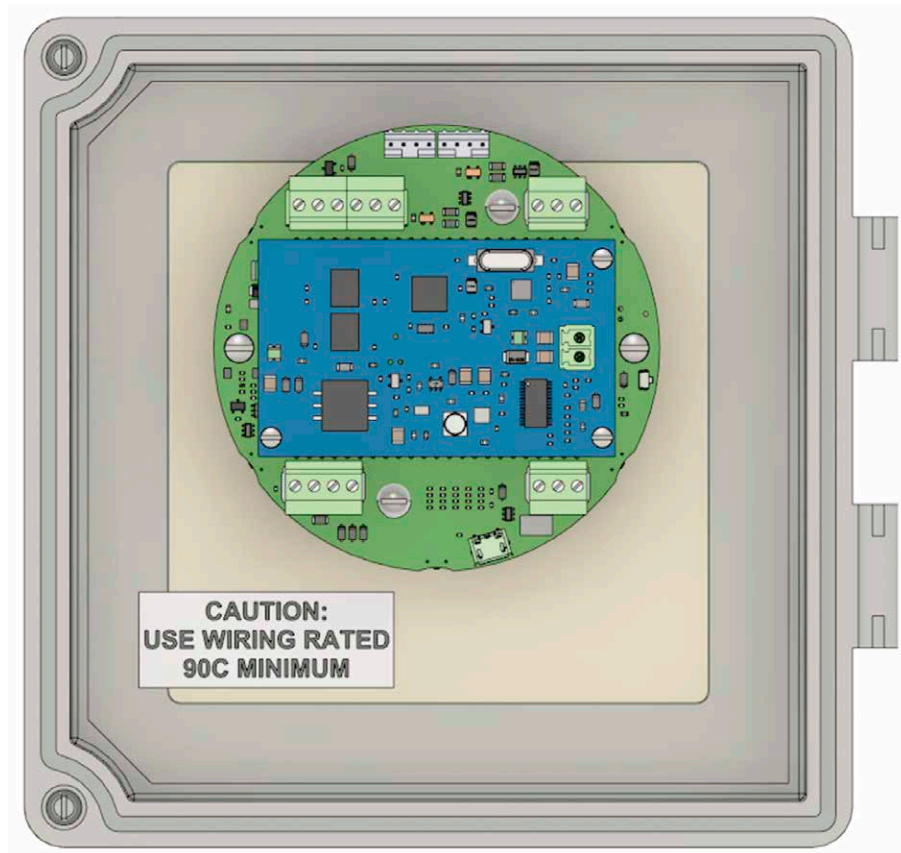

Figure A.4—Completed installation of expansion board
9. Remount the display assembly in the door, using the two screws that were removed in step 3 to secure the assembly in its original position in the door (Figure A.4).